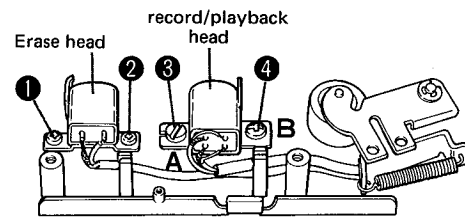

Fig. 12
2. Remove screws ① and ② in Fig. 12 and replace the erase head. After replacing the screws, apply lock paint to prevent them from becoming loose.
2. Remove screws ③ and ④ in Fig. 12 to remove the REC/PLAY head. The head may not come off after the screws have been removed because lock paint has been applied to points A and B in the figure; however, it can easily be removed by scraping off the lock paint.
3. Temporarily fasten screws ③ and ④ to install the head. Screw ④ may be tightened all the way, but screw ③ should be left partly loose because it is used for azimuth adjustment; see paragraphs 1-3 on mechanism adjustment and paragraph 2 on electrical circuit adjustment. After these adjustments have been made, apply lock paint to the screw to prevent it from coming loose.